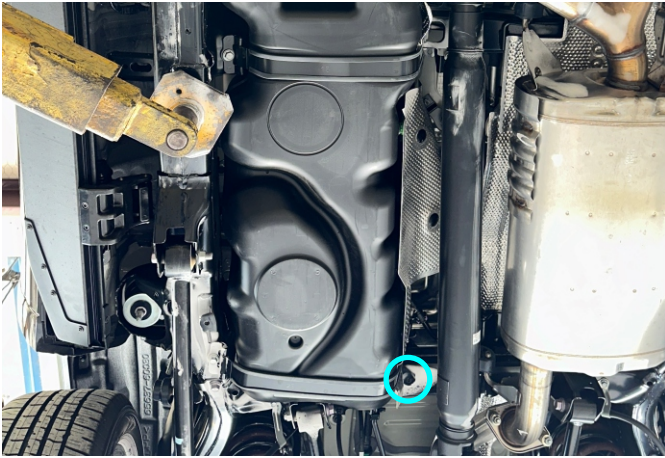

Fig. 4
2. Secure bracket 2 (item 3) using M8x25 bolt and M8 washer (items A, B) as shown in fig. 4, 5.